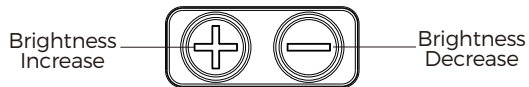

Fig 7
- 1. Power ON:** Momentarily press either brightness button ("+" or "-") to turn on the sight. (See Fig 7)